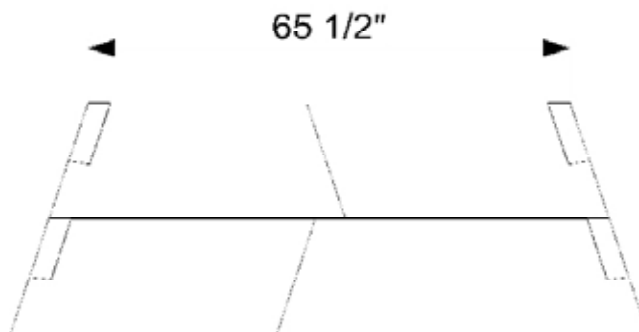

FIGURE 66
**Step 20:** Place one of the angle cut smoke dome top medium pieces at the front and one at the back of the first tier smoke dome so that they meet the smoke dome top big (haunch cut off and 50" bottom length) already set in Steps 14 and 15. The overall width dimension at the top of the smoke dome should be 65-1/2" (Figure 66).
**Step 22:** Top plate small, part M77, two required, to be used "as is". (Figure 66)
The top width dimension of the completed smoke dome should measure 65-1/2". (Figure 66) Each top plate small has a width dimension of 32-3/4 inches. Two of the top plates butted together should equal the smoke dome top width dimension of 65-1/2". (Figure 69)